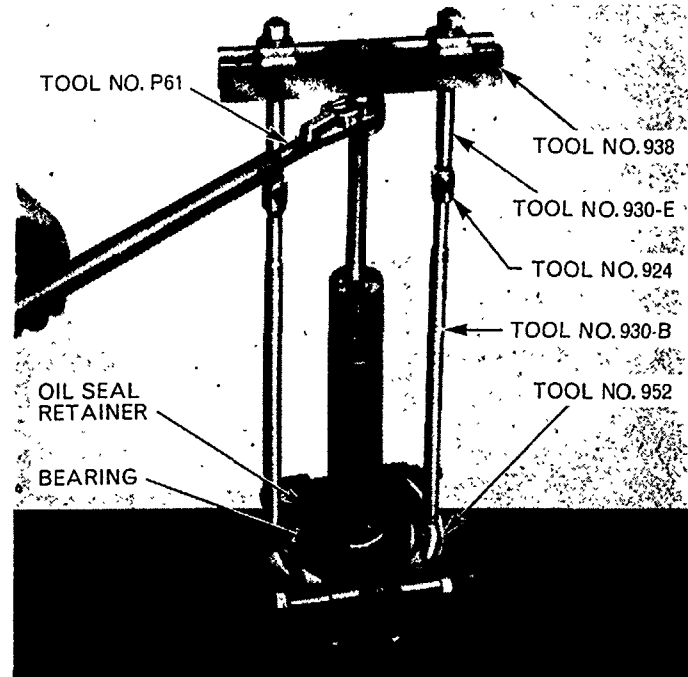

Figure 46
11. Remove the axle shaft cone and roller assembly, seal and seal retainer using Tool Nos. P61, 952, 938, 930 B & E, 924, Figure 46.